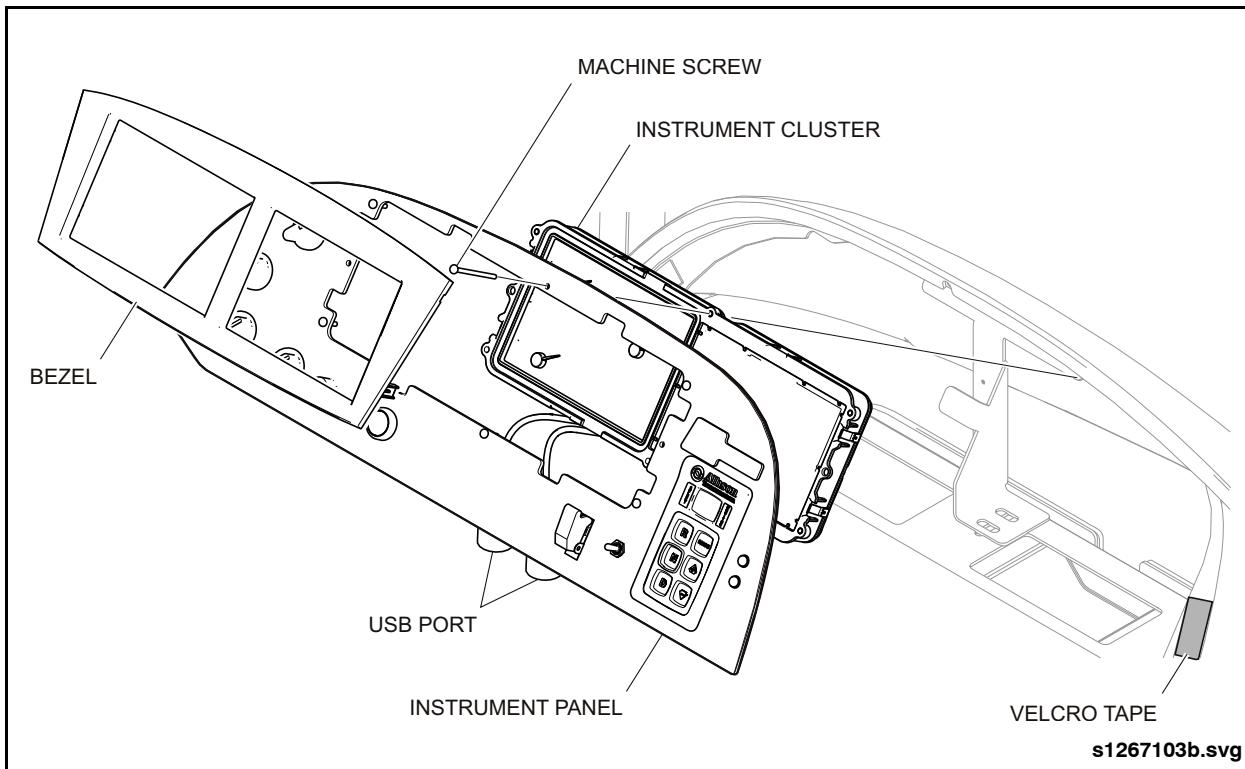

Fig. 19-14: Instrument Panel Repair & Installation
4. Remove the bezel by prying it away from the instrument panel. See "Fig. 19-14: Instrument Panel Repair & Installation" on page 28.